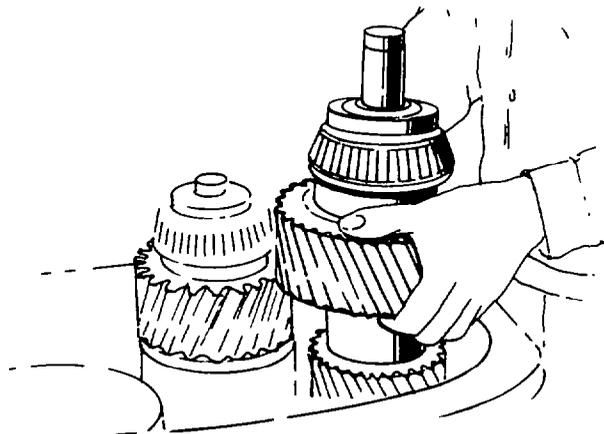

Fig. 232 — Removing Mainshaft Assembly
- x. Remove the mainshaft assembly from the case (see fig. 232).